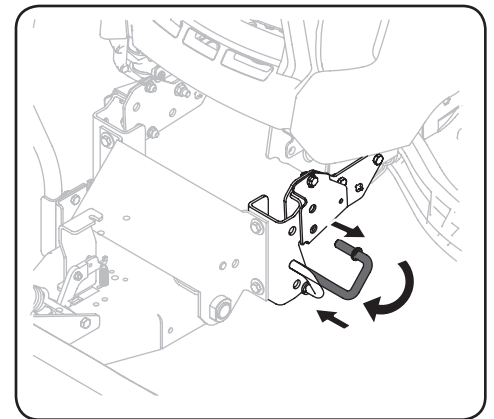

Figure 2-23
2. Pull spring pins outward on each side and rotate into storage position. See Figure 2-23.